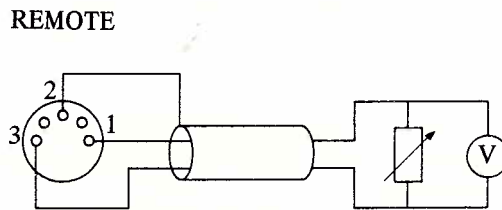

Fig. 6. Remote programming using a potentiometer.
**Programming with Potentiometer.** If a potentiometer of say  $50\text{ k}\Omega$  is used instead of a fixed resistor it becomes possible to vary the output voltage inside the range  $0 \dots 50\text{ V}$ . As mentioned above it is possible to program the output voltage all the way up to approx.  $80\text{ V}$ , depending on current drain. The cable between the "REMOTE" input and the potentiometer can have any length up to several metres, in which case it must be screened to avoid excessive output ripple (Fig. 6). A voltmeter to provide a check on the output voltage.